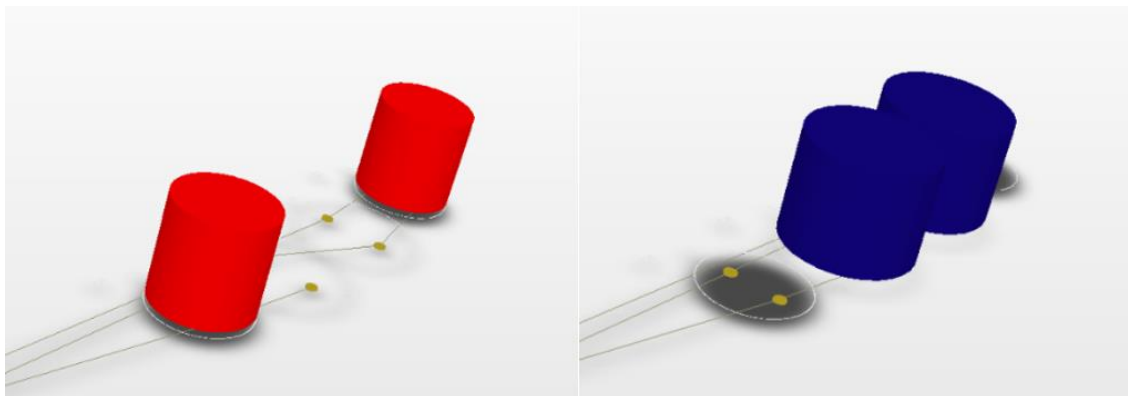

Figure 18. 3D View of Alternate Parts 120VAC and 240VAC
- b) Confirm that `120VAC` and `240VAC` variant modes display the 3D body of its respective variant, as shown in Figure 18.